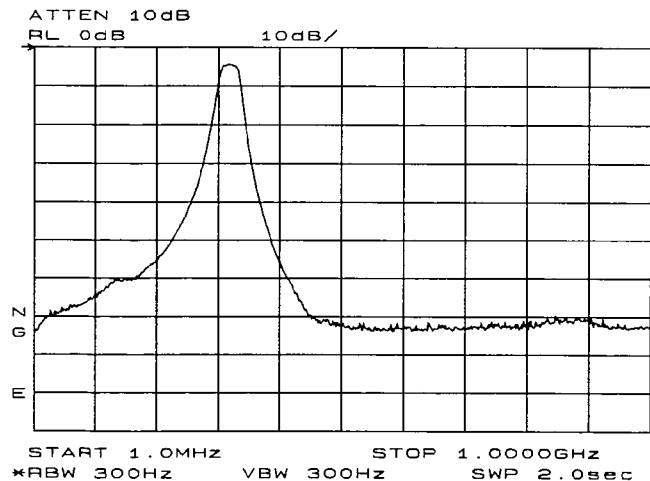

Figure 3-23. Normalized Trace
6. Normalization eliminates the frequency response error in the test-setup. When normalization is on, trace math is being performed on the active trace ($A - B + NRP \rightarrow A$), where A is the active trace, B is the stored thru calibration trace, and NRP is the normalized reference position. Note that the units of the reference level, dB, reflect this relative measurement (see Figure 3-23).